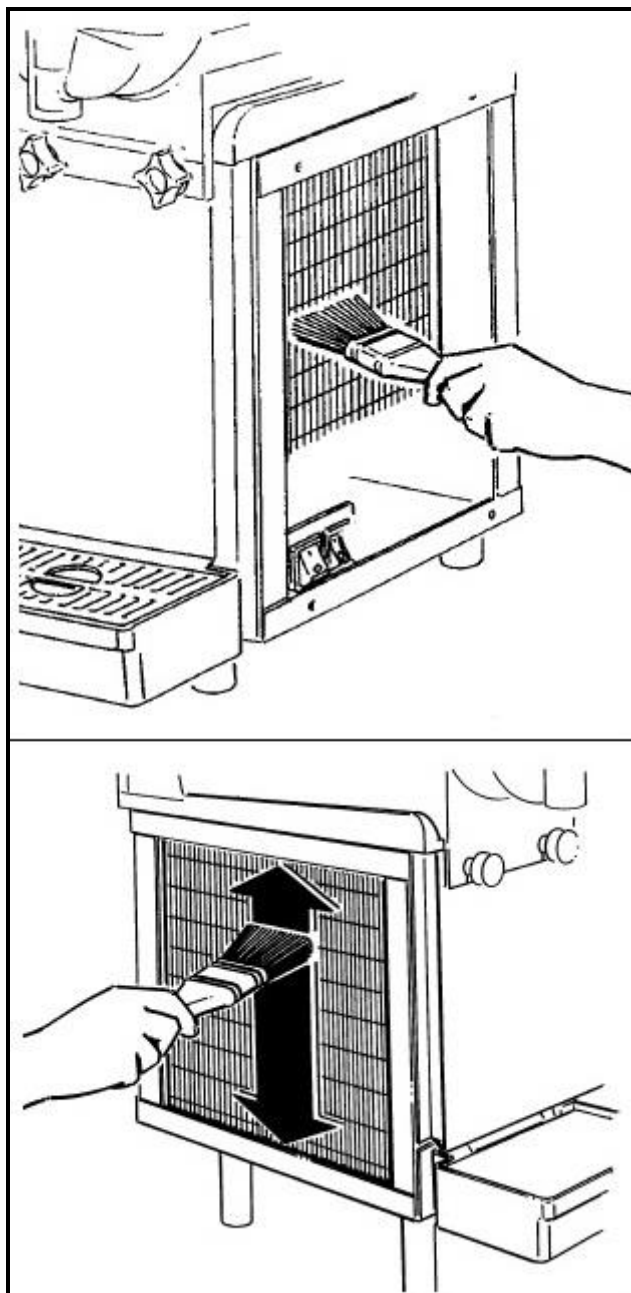

Fig. 22
- Clean the condenser fins properly with a soft brush or a vacuum cleaner (see figure 22).